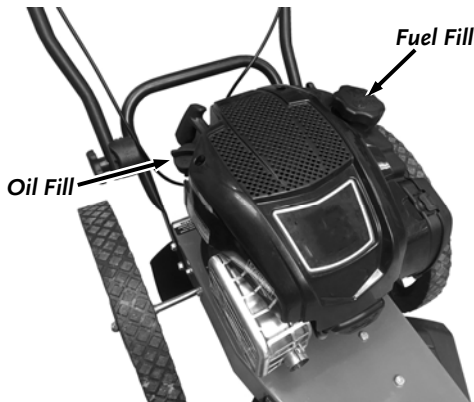

Figure 8
Note: The Fuel and Oil Fills on the 6.75 and 7.25 Electric Start models are on opposite sides from what is shown in figure 8.
1. Place the machine on a level surface and initially add 1/2 of the SAE 30 High Detergent oil into the Oil Fill (**Figure 8**) and wait one minute for the oil to settle